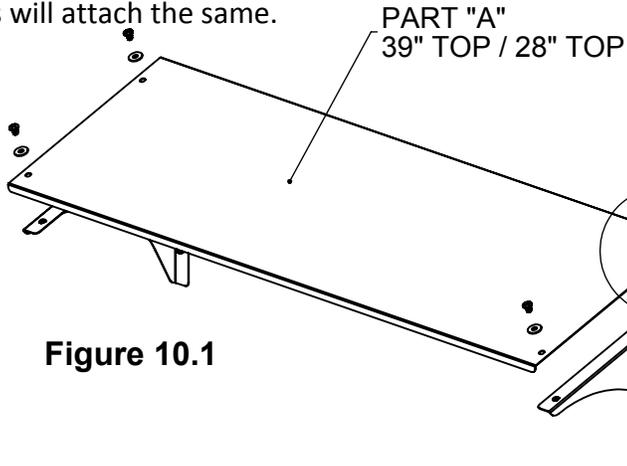

Figure 10.1
STEP 2: Take part "A" Window Shade Top and attach it to the Window Shade Ends, parts "B" & "C", see Figure 10.1. In (4) places secure the top to the ends with a 1/4-20x.375" screw and nylon washer, and tighten with a screw driver. Make sure the Ends "B" & "C" are flush with the outside edge of the Window Top "A". To make sure to not over tighten the hardware, it is best to use a hand screw driver instead of an impact or drill. Repeat this step for all the shades in your kit until complete. Whether the top is for a 39" or 28" window, the tops and sides will attach the same.